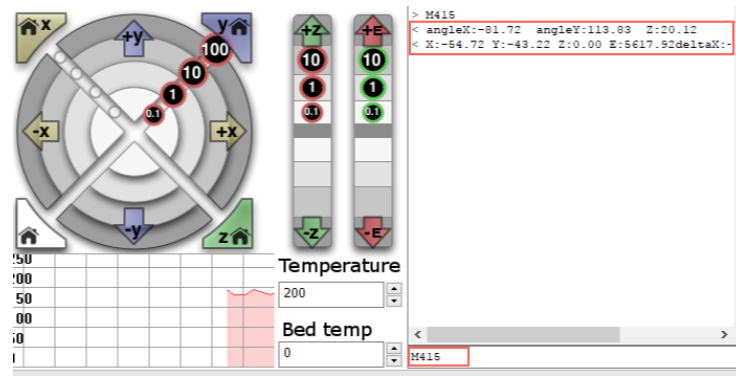

Figure 5.139 Input command M415
2. Input command **M415** on the lower right of the **Operational** page to get the current coordinates, as shown in Figure 5.139.